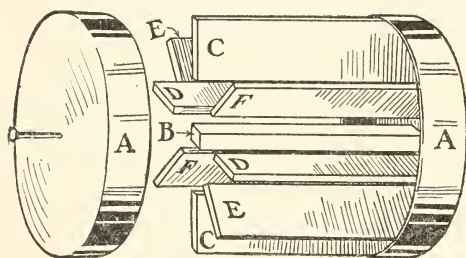

Fig. 72
**The Water-Motor Wheel.** Procure two baking-powder can covers for the ends of the water-motor wheel (*A*, Fig. 72), a cigar-box out of which to make the wheel paddles, and a stick  $\frac{1}{4}$  inch square and 5 inches long for the wheel axle (*B*, Fig. 72).
with tacks or brads driven through the cover into the ends of the strips. Take another pair of strips and fasten them to the same cover, in a similar manner, at right angles to pair *C* (*D*, Fig. 72). Then tack the pairs of strips *E* and *F* to the cover halfway between pairs *C* and *D*. With the paddles in position, locate the exact center of the end of the can cover, and
FIGS. 72 and 73. — Details of Water-Motor Wheel.